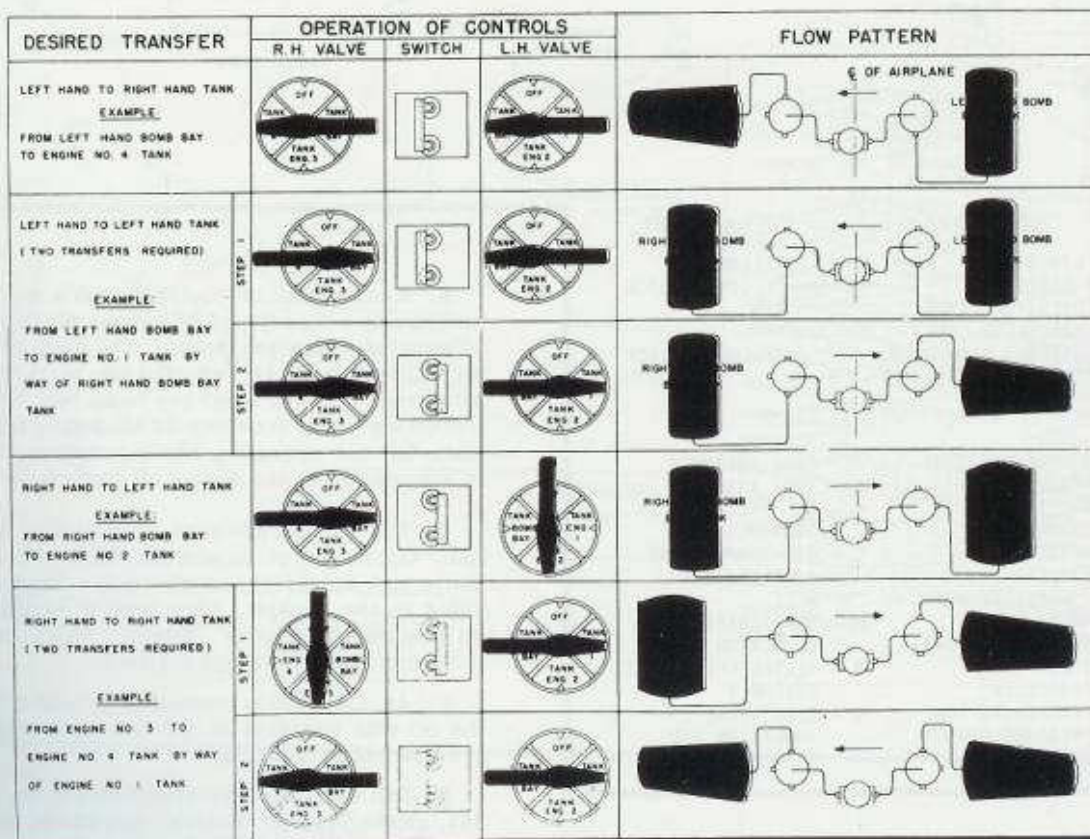

Figure 8 - Fuel Transfer Diagram
(1) Fuel is transferred by means of an electric motor-driven pump and two selector valves. The motor switch and selector valve handles are in the rear of the control cabin below the door leading to the bomb bay. Direct transfer can only be made across the center line of the airplane. (See figure 8 for fuel transfer procedure.)